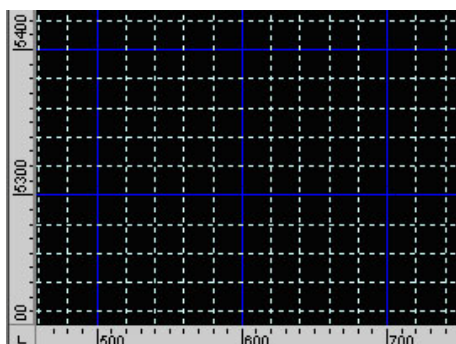

Figure 7-25. Show Grid
- Show Grid – check mark this box to display the grid in the Survey View (Figure 7-25).